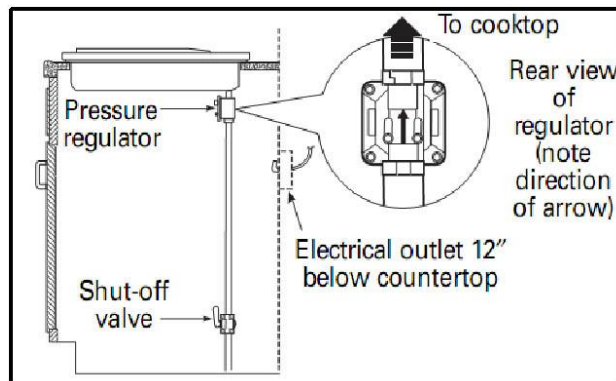

Figure 13
- If the cooktop is converted for **liquid petroleum (LP) gas**, the LP gas supply is required to provide a minimum of 10" to a maximum of 14" water column to the cooktop regulator.
- **⚠ The gas supply line must be equipped with an approved manual shut-off valve. In an easily accessible location in the same room as the cooktop. Do not block access to the shutoff valve. Be sure you know how and where to shut off the gas supply to the cooktop. Install the electrical outlet 12" below the countertop (see Figure 13).**